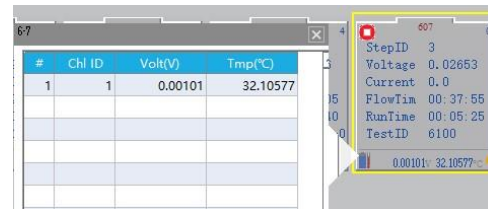

Figure 4-11 AUX channel information
- Click the button to display the auxiliary channel relationship. Click the button to view the corresponding auxiliary channel bound to the main channel. (Figure 4-11)